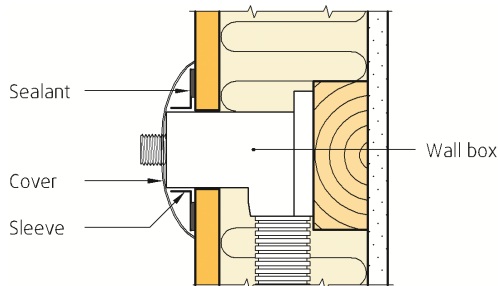

Fig. 5
- Sleeve delivered with the wall box is to be attached to the bathroom panel using one of the sealants listed in table 3. See Fig 5.